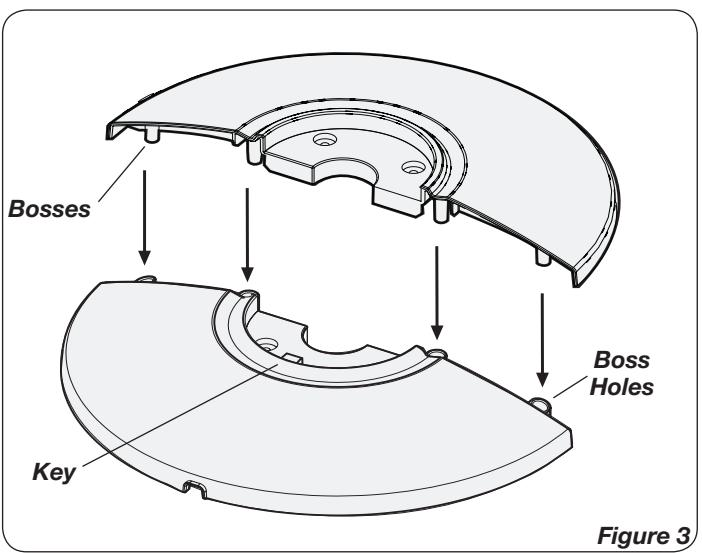

Figure 3
- Assemble the Base by interlocking the Bosses into the Boss Holes. (Figure 3)